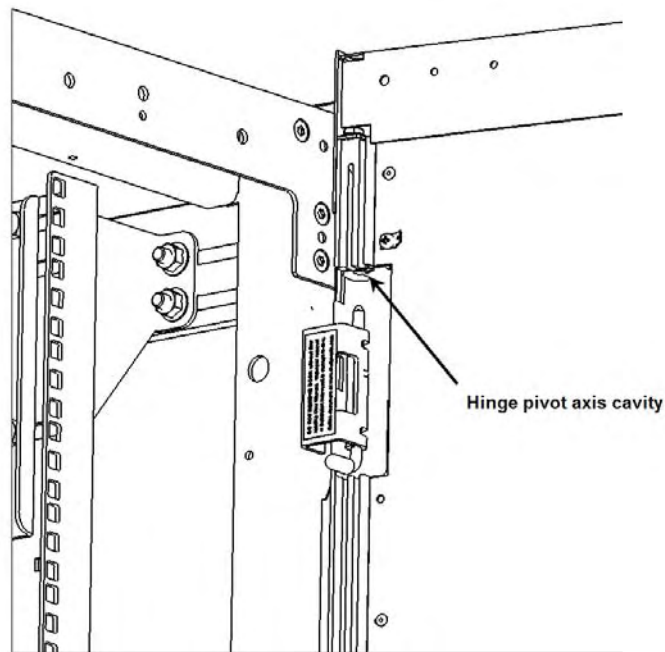

Fig. 2.3.3b Hinge pivot axis cavity
3. Carefully lower the door onto the upper hinge pin. Be sure that the hinge pin aligns correctly with the hinge pivot axis cavity in the door frame (see Fig. 2.3.3b).